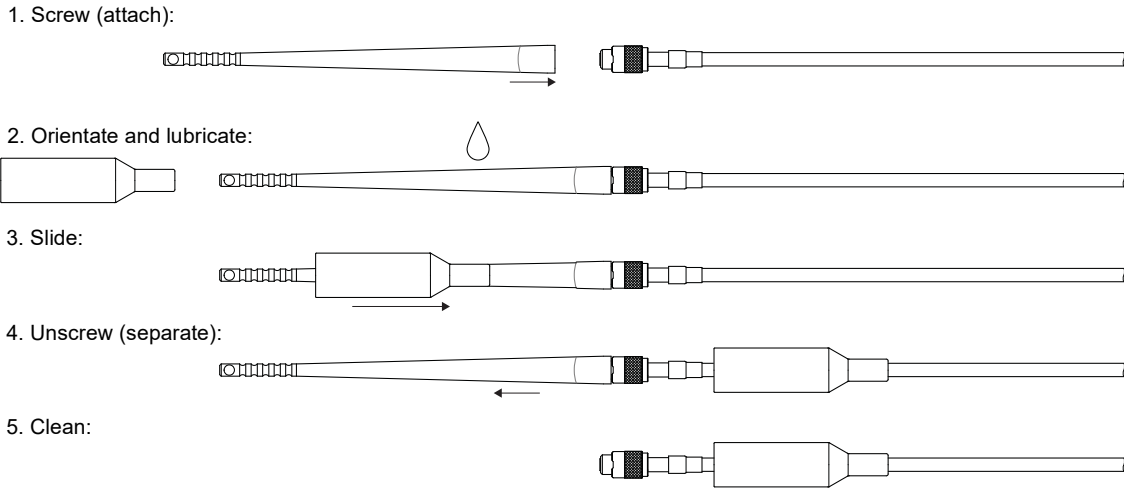

Figure 3-5: Assembling the female IP172 interconnection protector on an EA90x extension cable
- The female IP172 interconnection protector (refer to the IP172 data sheet) should be assembled on the EA90x extension cable assembly, as shown in Figure 3-5.
To assemble the female IP172 interconnection protector on the EA90x extension cable, see Figure 3-5 and:
- 2- Orientate the small diameter opening of the female IP172 interconnection protector with the tool. Lubricate the small diameter opening of the interconnection protector (or the tool itself) with a pea-sized amount of silicone grease, as indicated by the  symbol in Figure 3-5).